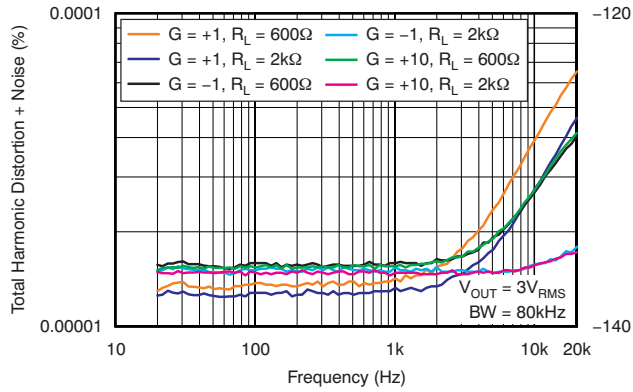
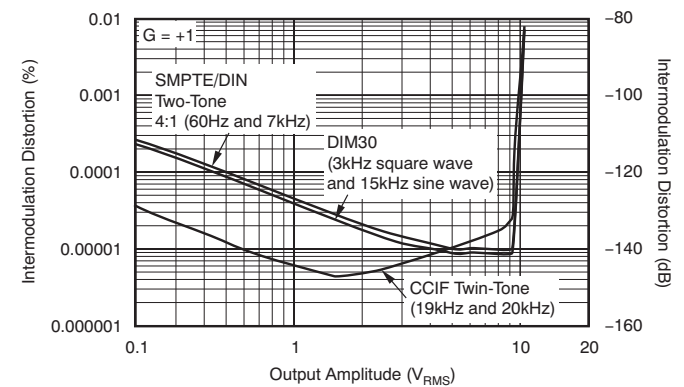

Figure 7.
Figure 12.
The OPA161x series op amps have excellent distortion characteristics. THD + Noise is below 0.00008% ($G = +1$, $V_O = 3V_{RMS}$, $BW = 80kHz$) throughout the audio frequency range, 20Hz to 20kHz, with a $2k\Omega$ load (see Figure 7 for characteristic performance).
(1) For measurement bandwidth, see Figure 7 through Figure 12.